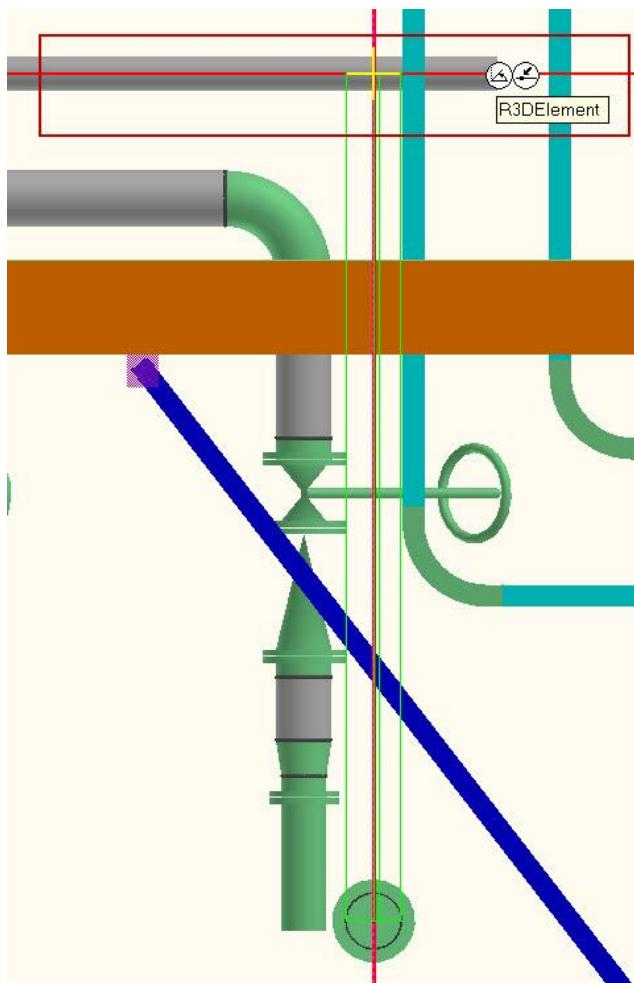

Figure 16. 7: Route Pipe Upward
- 14) Switch the view to looking Plan and continue routing the pipe 4 ft **North** with No Plane selected. See Figure 16. 8. Left Click to place the pipe.